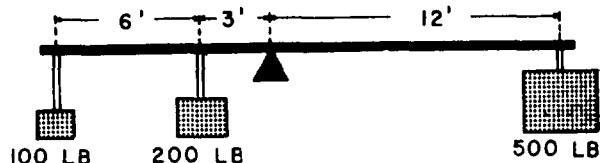

Figure 1R
- 1-57. The result of forces operating as shown in figure 1R is equivalent to a moment of